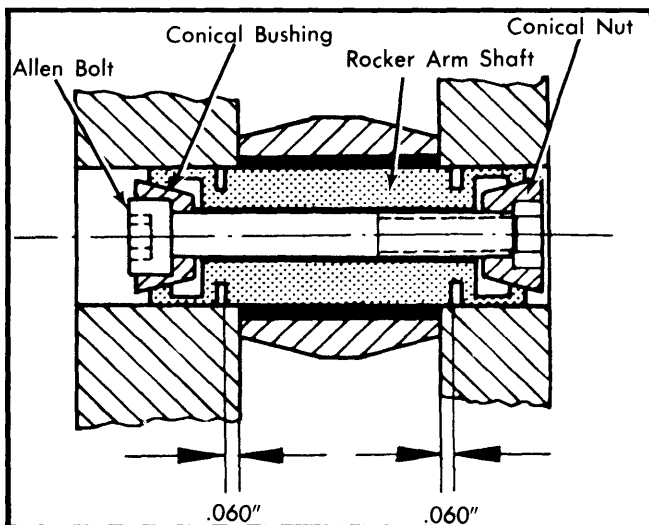

Fig. 2 Cross Sectional View of Rocker Arm Shaft Assembly
4) Install rocker arms and shafts so that grooves in shafts are recessed approximately .060" (1.52 mm) into bores. See Fig. 2. Tighten Allen bolts to 13 ft. lbs. (1.8 mkg) using suitable tools (P 210 & P 211).
Using an Allen wrench, loosen rocker arm shaft bolt. Slide rocker shaft out of cylinder head and remove arm. Check rocker arm shaft and bushing for wear and replace as required. Install rocker arm shaft with Allen bolt facing either No. 2 or No. 5 cylinder. Center shaft in housing and tighten Allen bolt. See Fig. 2.